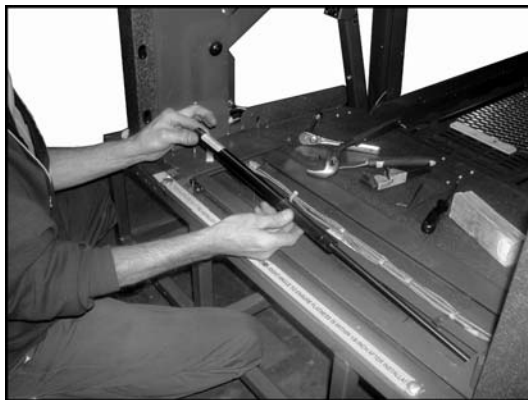

FIGURE 3-23
3. Refer to **Figure 3-23**. Slide gas spring inward then lift and remove from baseplate.
9. Place gas spring (P/N 39368) in baseplate as shown in **Figure 3-23**.